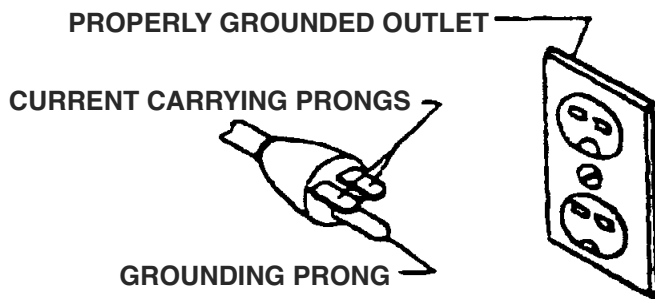

FIGURE 3
3. The 110V plug supplied with the drill press must be replaced with a CSA listed plug suitable for 220V operation. This plug is illustrated in Fig.3. Contact your authorized service center or qualified electrician to install the plug and to change the connections from 110V to 220V. The drill press must comply with all local and national codes after the 220V plug is installed.
5. A drill press with a 220V plug should only be connected to an outlet having the same configuration as illustrated by the grounded outlet box in Fig.3. No adaptor is available or should be used for 220V operation.